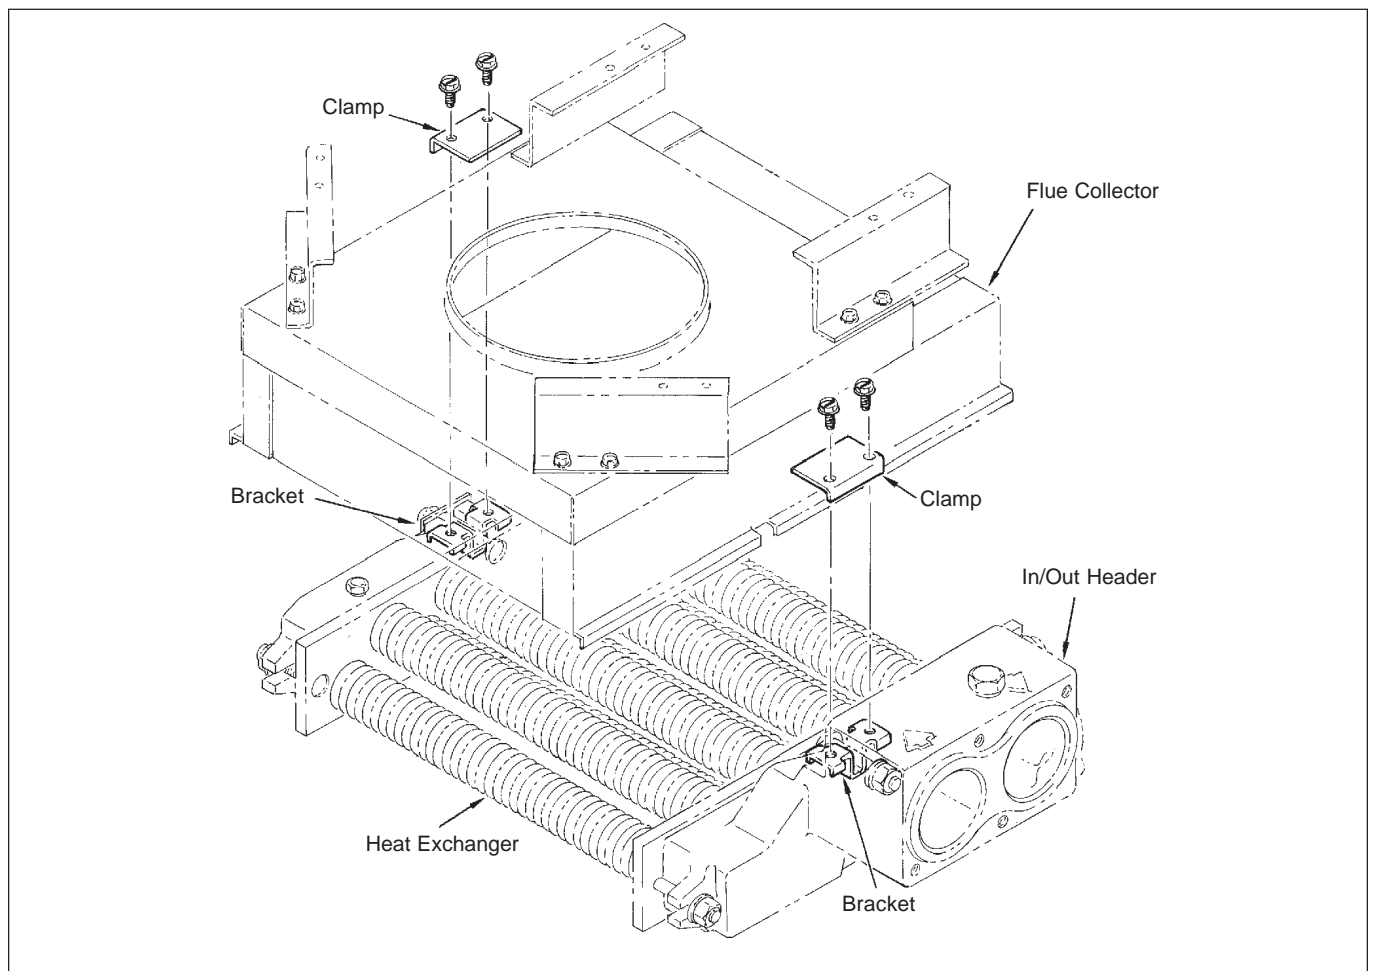

Figure 16. Flue collector Holddown Clamps.
4. Remove the screws that fasten the flue collector hold-down clamps and remove the clamps (see Figure 16).